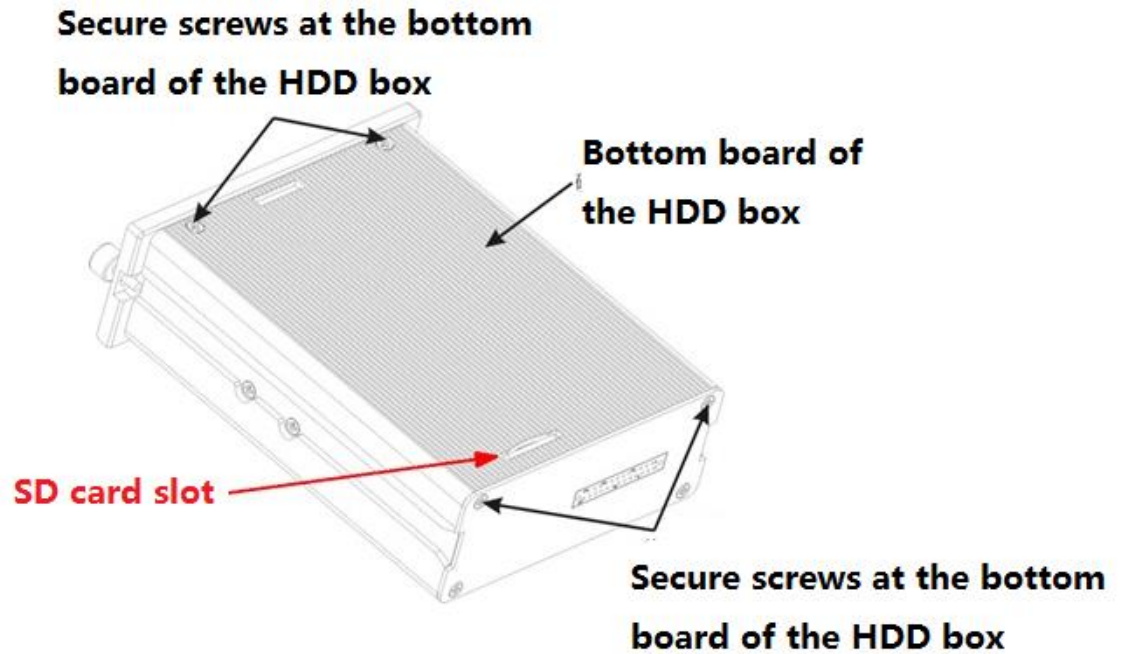

Figure 2-12
Step 2 Loosen the screws of the bottom board of the HDD box and then remove the bottom board. Now you can see an interface shown as in Figure 2-12.
Step 8 Refer to Figure 2-12 to put the SD card to the SD card slot. Put the HDD box back to the